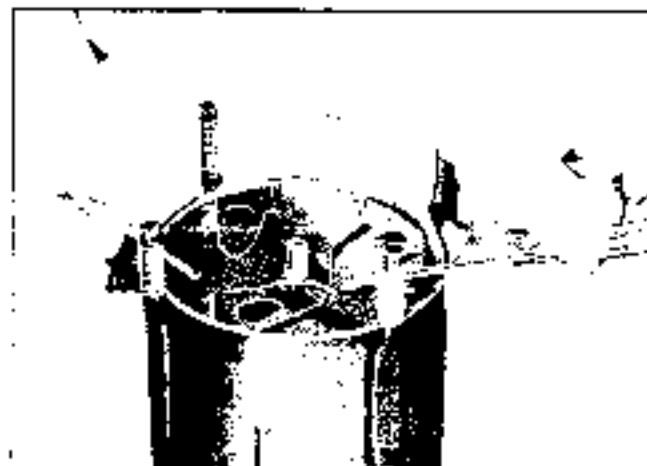

Fig. 1A-20 Removing Suction Reed
4. Remove O-ring from interior of front head casting bore. (A wire with a hook formed on the end may be used. This hook may be made in a manner as shown in Fig. 1A-17)
5. Remove oil inlet tube and O-ring, using a wire with a hook formed in one end (Fig. 1A-21).